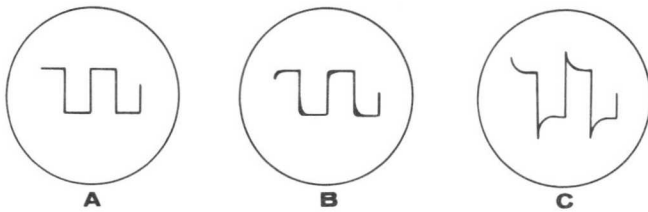

Figure 2-7 (Repeat)
- () Adjust the output of the signal generator to provide a 100 kHz square wave signal to the VERT IN jack of the Oscilloscope. The signal on the CRT may resemble A, B, or C of Figure 2-7 (fold-out from Page 84) at this time.
Figure 2-7 shows the conditions of the correct amount of circuit compensation, too little and too much. After making the following adjustments, the waveform should appear as shown in Part A of Figure 2-7.
- () Adjust the Vertical Compensation trimmer (Figure 2-2) on the vertical amplifier circuit board until the waveform appears as shown in Part A of Figure 2-7.
- () Adjust 2 volt trimmer capacitor C1 (Figure 2-1) until the waveform appears as shown in Part A of Figure 2-7.
- () Adjust 5 volt trimmer capacitor C5 until the waveform appears as shown in Part A of Figure 2-7.
- () Adjust the trimmer capacitor on the X10 low capacity probe to produce a waveform as shown in Part A of Figure 2-7.
- () Adjust X10 Low Capacity Trimmer C2 (Figure 2-1) to produce a waveform as shown in Part A of Figure 2-7.